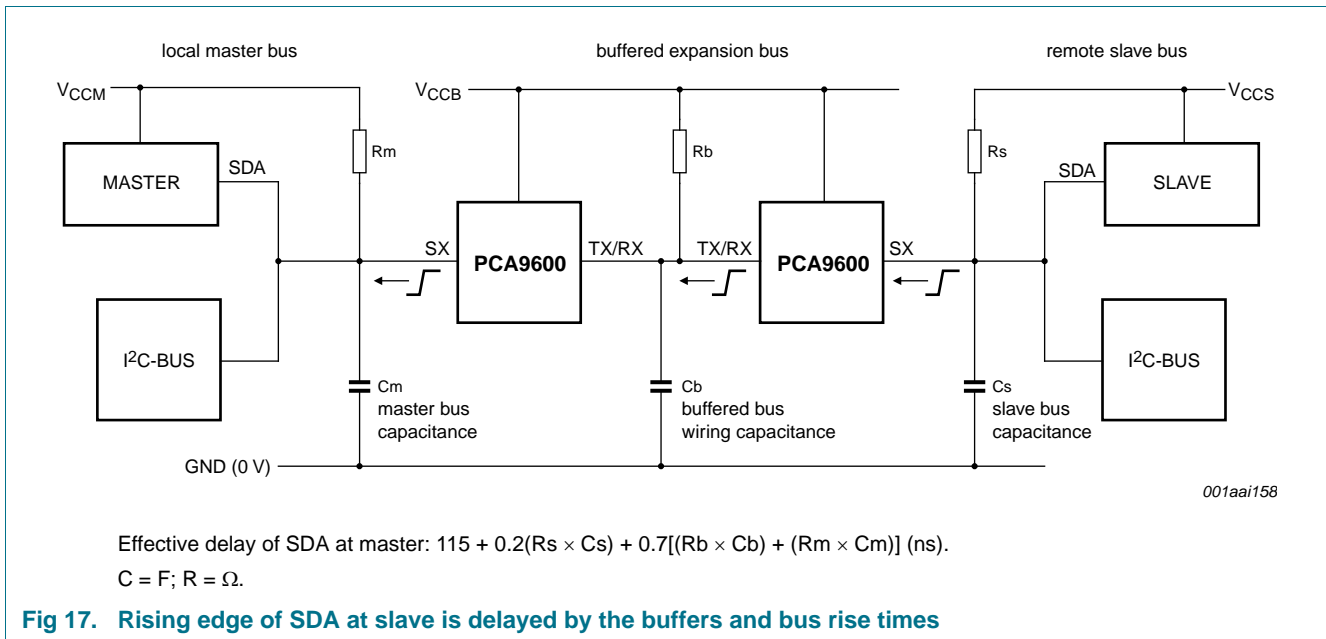

Fig 17. Rising edge of SDA at slave is delayed by the buffers and bus rise times
Figure 15, Figure 16, and Figure 17 show the PCA9600 used to drive extended bus wiring with relatively large capacitances linking two I²C-bus nodes. It includes simplified expressions for making the relevant timing calculations for 3.3 V or 5 V operation. Because the buffers and the wiring introduce timing delays, it may be necessary to decrease the nominal SCL frequency. In most cases the actual bus frequency will be lower than the nominal Master timing due to bit-wise stretching of the clock periods.
- C** — The propagation delay of the slave’s response signal through the buffers and wiring back to the master. The important delay is that of a rising edge in the SDA signal. Rising edges are always slower and are therefore delayed by a longer time than falling edges. (The rising edges are limited by the passive pull-up while falling edges are actively driven); see Figure 17.
SDA, reaching the master (Figure 17).